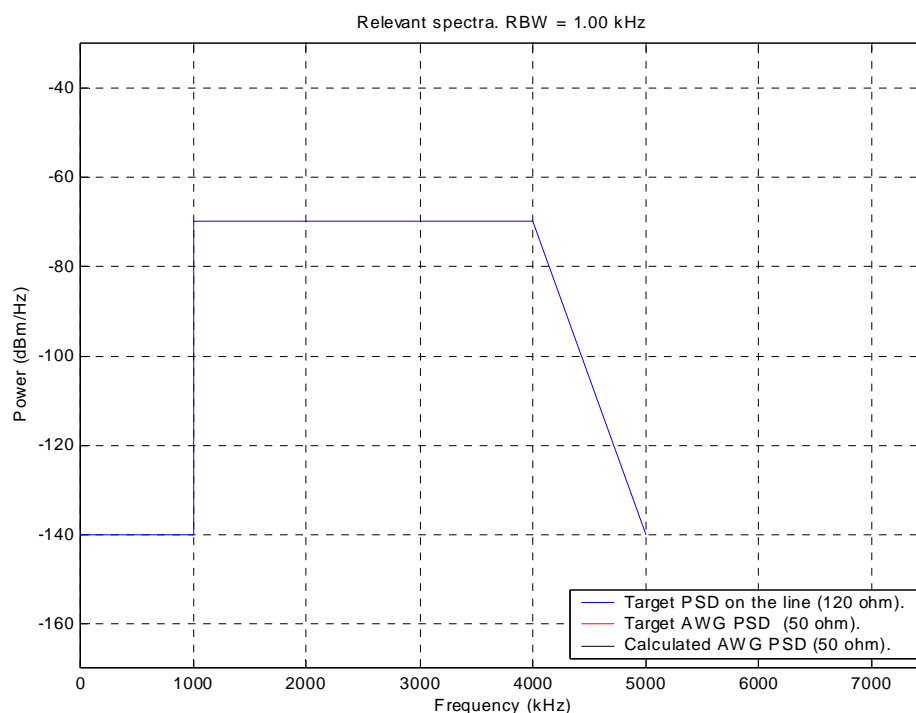

Figure 5-2. Sample PSD Calculated Profile from Table 5-2 on page 67
- **Full noise:** is the combined equivalent disturbance from both Alien and Self-disturbers. This is the noise that must be used when defining generator “G1” and “G2” in Figure 5-2 on page 68.
The DLS 5500 interpolates between the values provided in the noise profile ASCII file. By default, the interpolation scheme is based on 'linear frequency, linear dB.' See Figure 5-2 for a picture of the noise profile corresponding to the data in Table 5-2 on page 67.